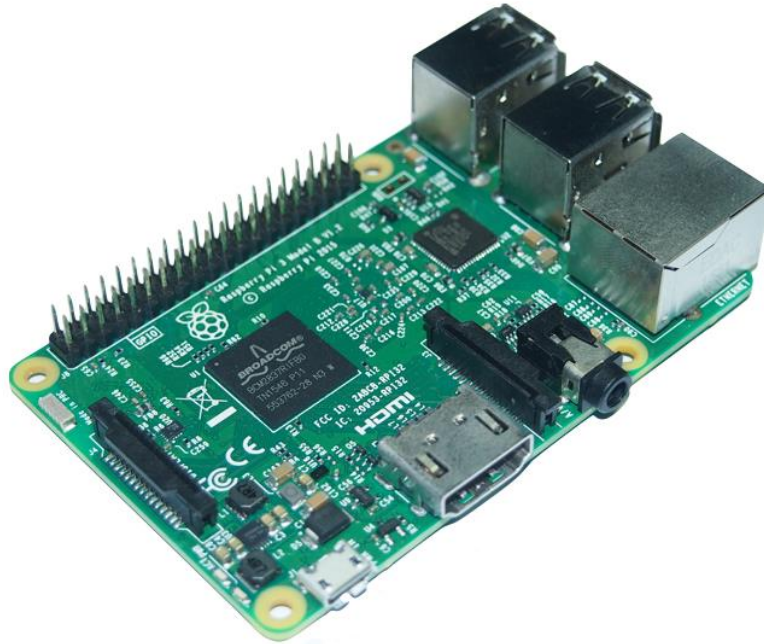
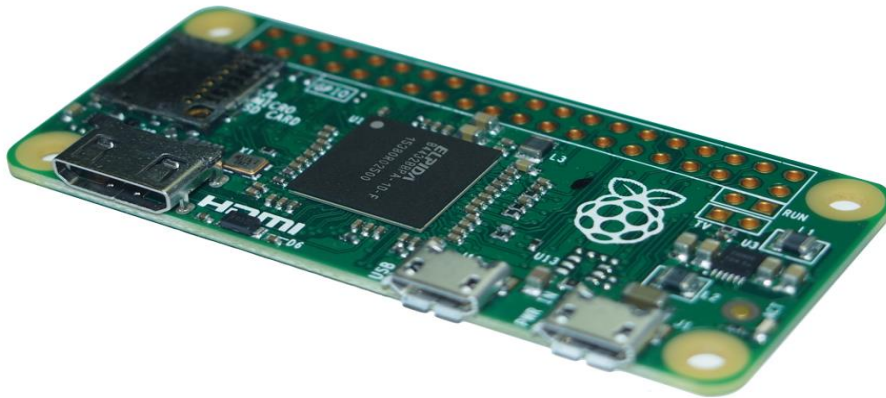

Figure 2: **The Raspberry Pi 3**
Figure 3: The Raspberry Pi Zero
- ✚ Of the various models, Raspberry Pi 3 (see Figure 2) and Raspberry Pi Zero (see Figure 3) stand out.